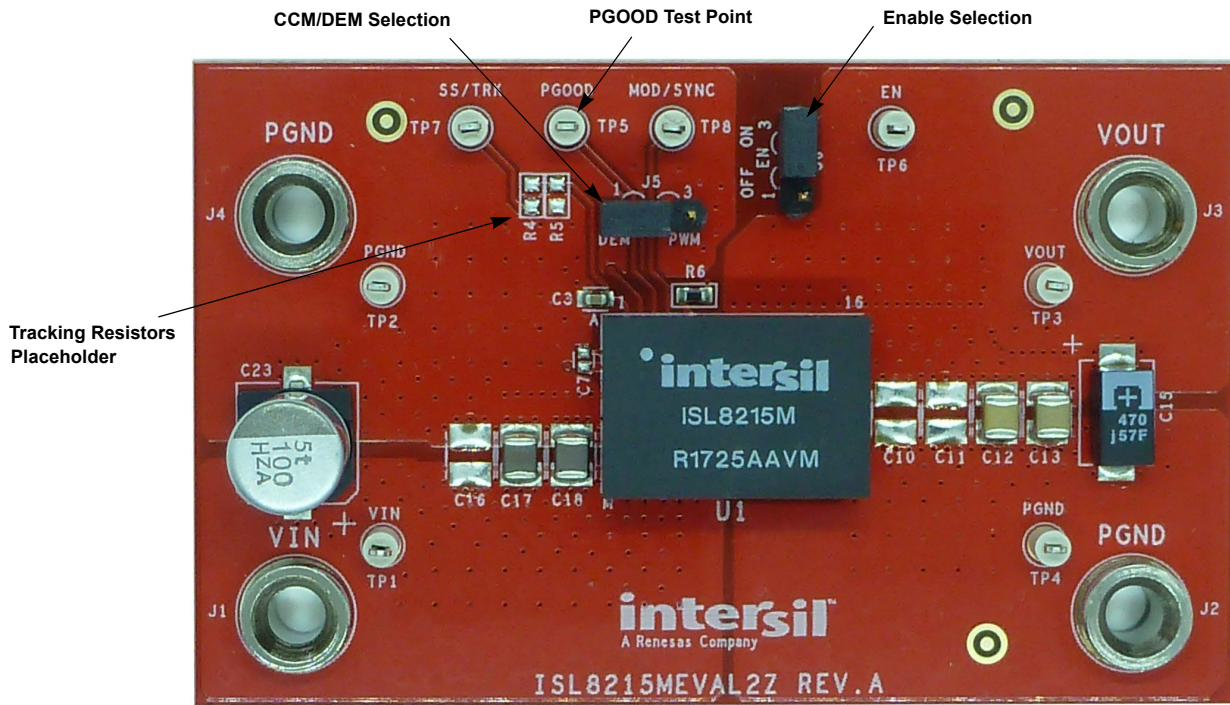
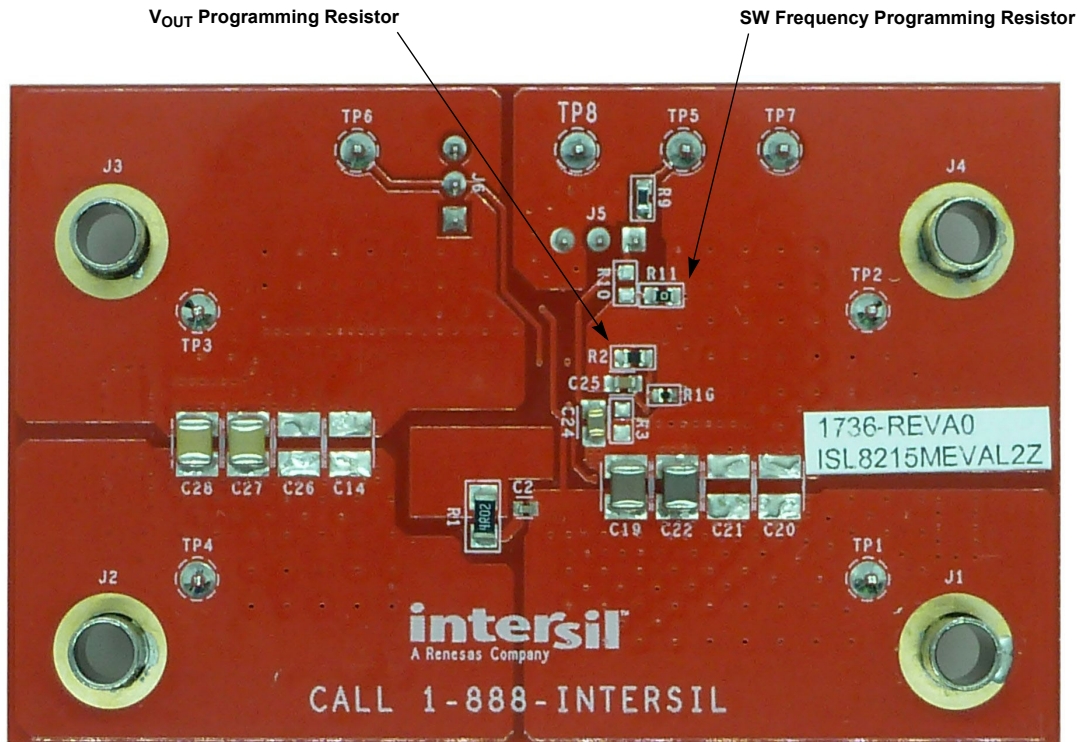

Figure 2. Top of Board
Figure 3. Bottom of Board
The ISL8215MEVAL2Z provides the peripheral circuitry to evaluate the feature set of the ISL8215M. The evaluation board includes several connectors, test points, and jumpers that make validation of the module easy. The converter can be enabled and disabled by moving the jumper across the EN pin as shown in Figure 2 on page 6. Connecting a jumper across the pins as shown in Figure 2 enables the PSM/DEM mode of operation, which can lead to higher efficiencies at light loads. Resistors R_4 and R_5 (Figure 2) can be used to evaluate the tracking functionality. Selecting features like external frequency synchronization can be performed by connecting the signal generator (square pulse waveform clock signal) to the MOD/SYNC pin. The output voltage (0.6V to 12V) and the switching frequency (300kHz to 2MHz) can be programmed by changing the resistors as shown in Figure 3 on page 6.
- (1) Disable the module by moving the jumper across the EN pin as shown in Figure 2.
- (2) Use the appropriate cables to connect the DC input power supply to banana sockets J_1 and J_4 and the electronic load to sockets J_3 and J_2 . Ensure that the polarity for the power leads is correct and the input voltage is within the operating range of the module (7V to 42V). Use test points TP_1 (VIN) and TP_2 (PGND) to accurately measure the input voltage.
- (3) Move the connector for the EN pin to ON to enable the module. You can also remove the connector completely.
- (4) Turn on the input power supply.
- (5) Probe test points TP_3 (VOUT) and TP_4 (PGND) to observe the output voltage. The output voltage should read 3.3V.
- (6) Adjust the input voltage, V_{IN} , within the specified range and observe the output voltage. The output voltage variation should be within $\pm 1.5\%$.
- (7) Adjust the load current to within the specified range (0 to 15A) and observe the output voltage. The output voltage variation should be within $\pm 1.5\%$.
- (8) To change V_{OUT} , disconnect the evaluation board from the setup and populate a standard 0603 resistor at the R_2 placeholder location on the bottom layer. The “Output Voltage Resistor Settings” table in the ISL8215M datasheet can be used as a reference for programming different output voltages. Refer to the “ISL8215M Design Guide Matrix” table in the ISL8215M datasheet for correct input and output capacitors, switching frequency, and output voltage combinations.
- (9) To change the switching frequency, populate a standard 0603 resistor at the R_{11} placeholder location on the bottom layer. Refer to “Equation 2” in the ISL8215M datasheet for selecting the correct value of R_{11} within admissible operating range (300kHz - 2MHz).